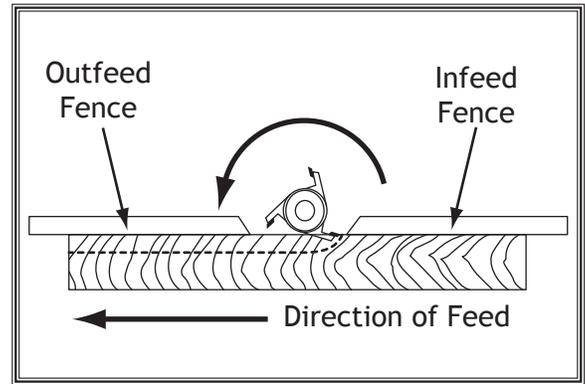

Figure 48. Fence boards setup for partial edge cutting.
5. Start the spindle rotating counterclockwise, then feed a test piece past the cutter to verify the cut, as illustrated in Figure 48.